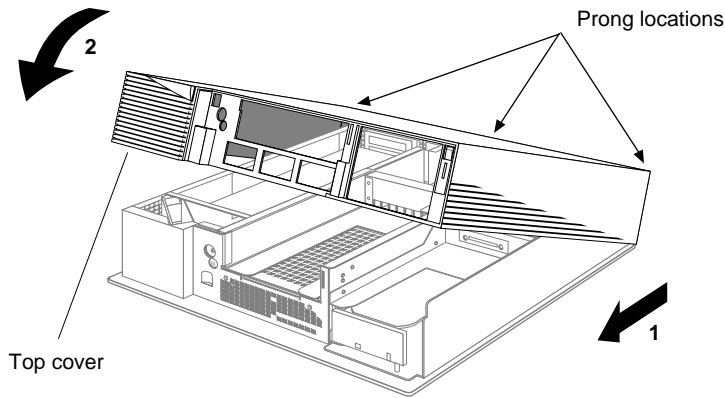

Figure 4-7 Replacing the Top Cover of the Indigo² Chassis
1. Place the prongs on the underside of the cover into the slots under the top ridge of the backplane of the chassis, as shown in Figure 4-7.